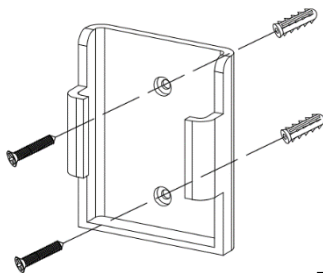

Fig. 8a
1. Locate a suitable wall to fix the remote control holder with the 2 screws & 2 Anchors . (Fig.8a).